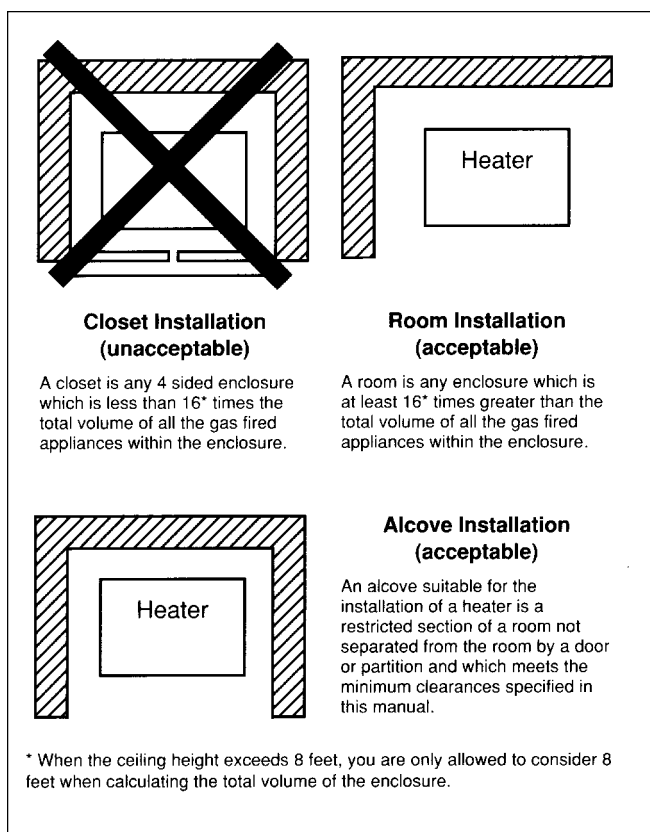

Figure 9. Alcove Installation.
1. Locate the boiler to provide adequate clearance for inspection and service on all sides (see Table 2). We recommend minimums of 24" from front (for proper access to and service of controls) and 18" at water connection end. For alcove installation, see Figure 9.